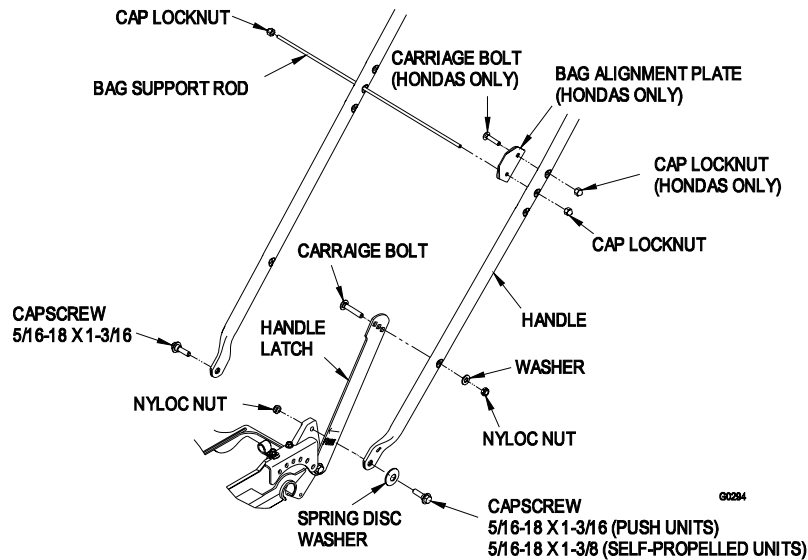

Figure 1
1. Mount the handle to the outside of the lawn mower housing (using the top hole) with 2 cap screws (Fig. 1), washers, and thin nylon insert locknuts.
2. Secure the handle latches to the handle with 2 carriage bolts (5/16–18 x 1-3/4 in.), and black knobs (Fig. 1).
3. *For units with Honda Engines:* Slide the bag support rod through the bag alignment plate and into the upper, middle, or lower mounting holes in the handle and secure each end with a cap locknut (Fig. 1). The bag support rod mounting hole location corresponds with the mounting hole location for the handle latches as shown in the table below.
Secure the top of the bag alignment plate with a carriage bolt and cap locknut (Fig. 1).
For units with Kawasaki Engines: Slide the bag support rod into the upper, middle, or lower mounting holes in the handle and secure each end with a cap locknut (Fig. 1). The bag support rod mounting hole location corresponds with the mounting hole location for the handle latches as shown in the table above.